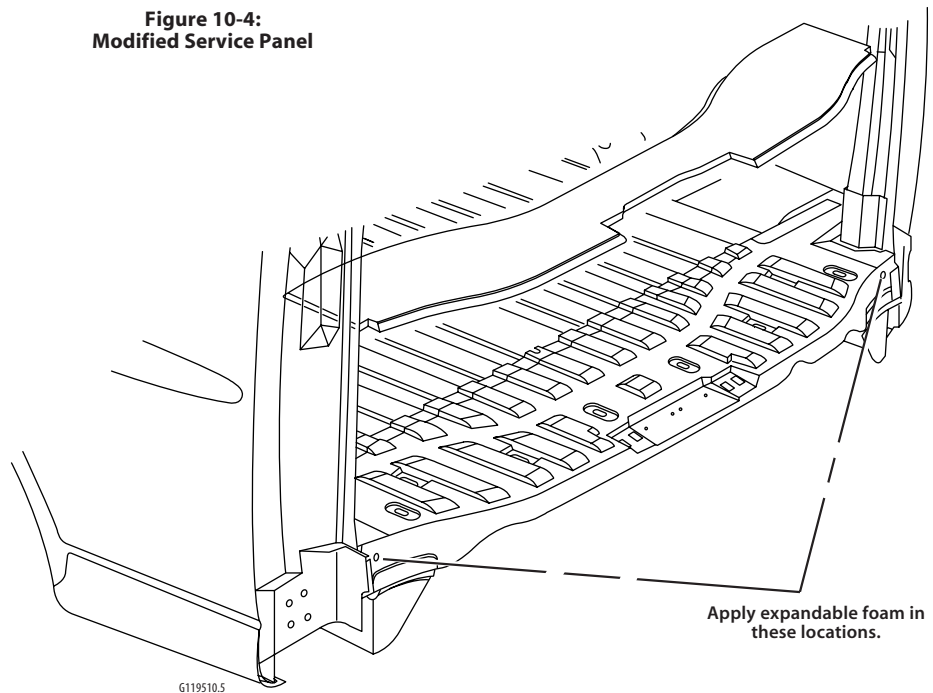

Figure 10-5:
6. Clean and prepare welded surfaces. Prime with two-part catalyzed primer. Drill appropriate size holes to install two-part expanding foam in the floor extension (figure 10-5). Be sure to seal the holes with a suitable plug.